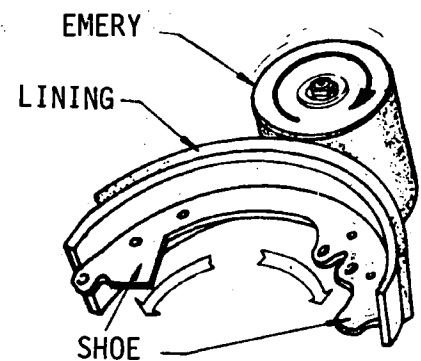

Fig. 3
- c) Grind the working surface of the brake lining (fig. 3).